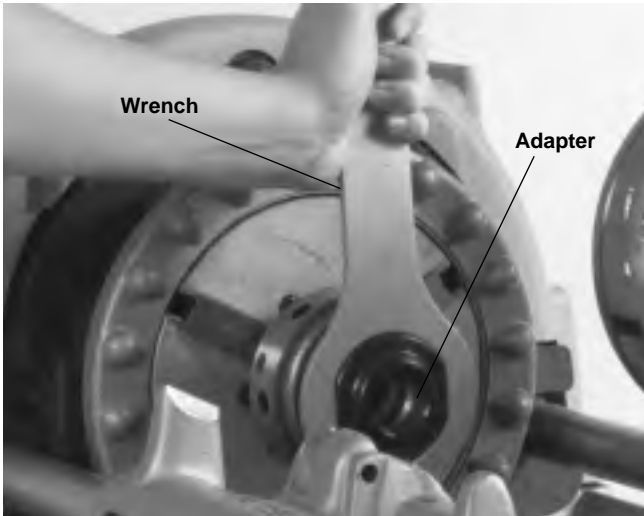

Figure 19 – Installing Nipple Chuck Body
2. Place nipple chuck body (Figure 19) in Threading Machine chuck, gripping jaw grooves. Tighten chuck with snap spin of handwheel.
4. Select proper size nipple chuck adapter and screw into nipple chuck (Figure 19) by hand. Tighten with wrench provided with nipple chuck.